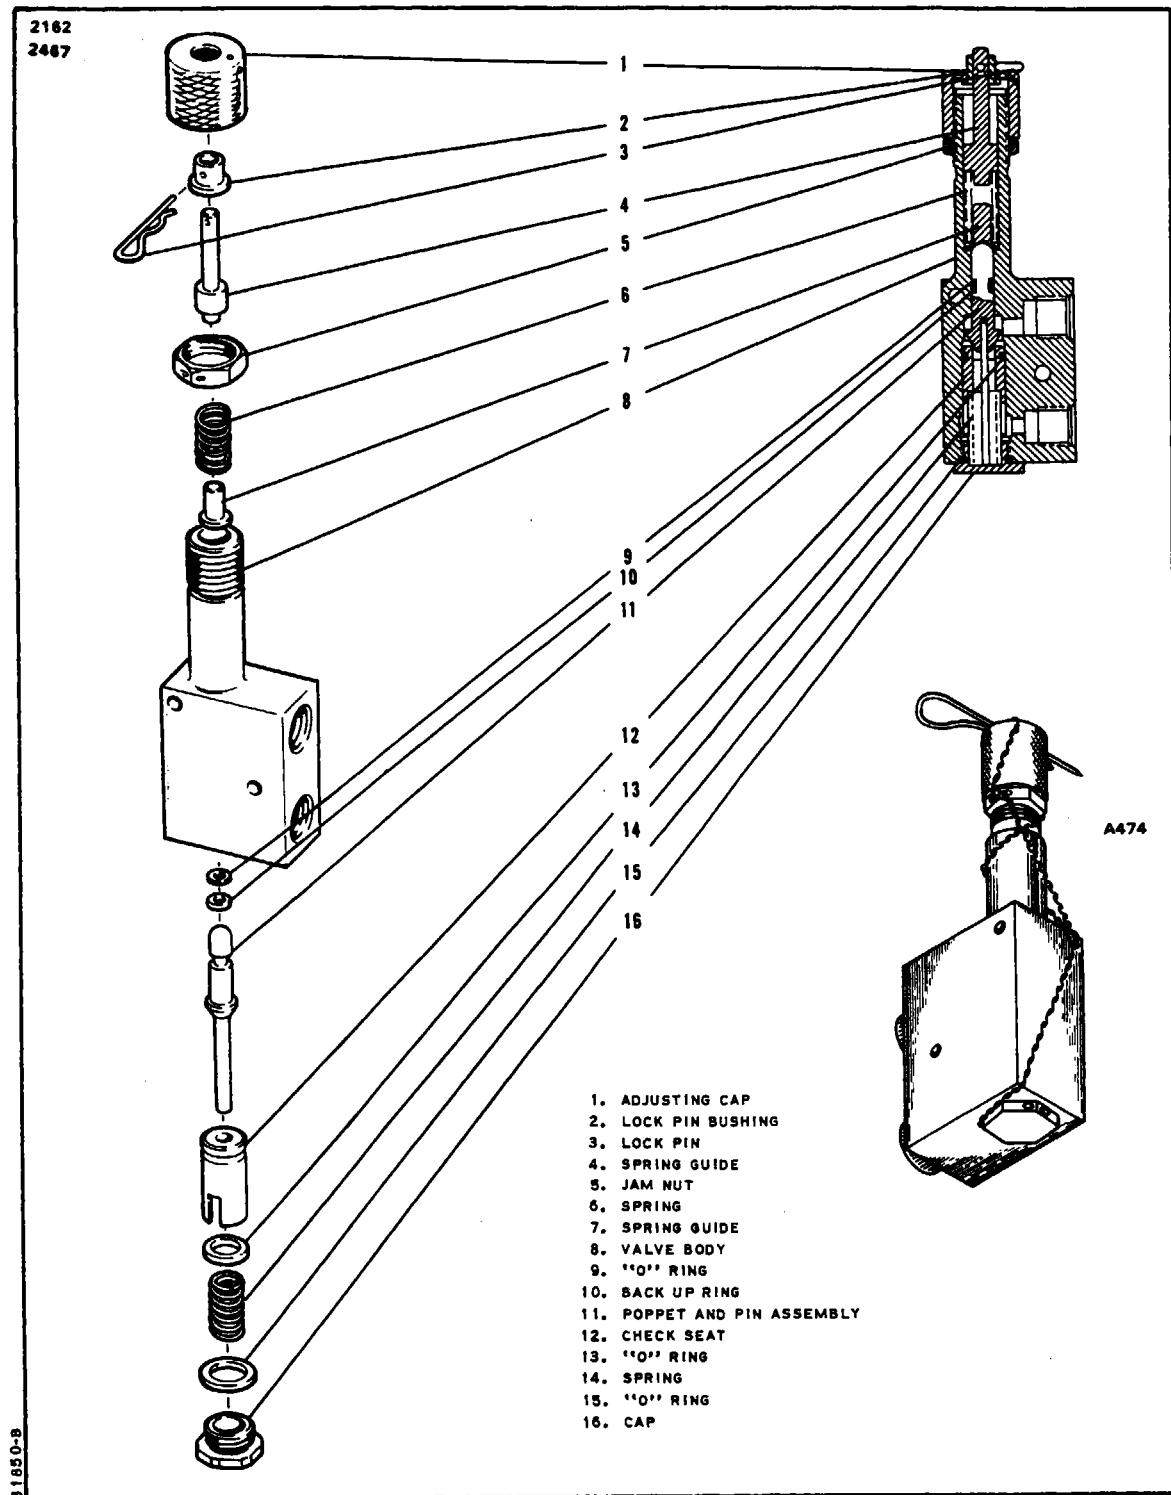

Figure 6-32. Priority Valve
6-114. DISASSEMBLY OF PRIORITY VALVE. (Refer to Figure 6-32.)
6-116. ASSEMBLY OF PRIORITY VALVE. (Refer to Figure 6-32.)
- c. Install the spring (14) into the valve body.
- d. Install a new "O" ring (15) to the cap (16) and secure the cap to the end of the valve body.
- e. In the opposite end of the valve, install the spring guide (7), spring (6), spring guide (4), lock pin bushing (2) and the knurled adjusting cap (1).
- f. Tighten the adjusting cap until the lock pin can be freely inserted through the lock pin bushing (2) and the end of the spring guide (4).
- g. Test and adjust the valve in accordance with instructions in Paragraph 6-117, and safety valve with MS20995-F20 wire as shown in Figure 6-32.
- i. Safety the valve in a figure 8 pattern with MS20995-F20. (Refer to Figure 6-32.)
- b. Insert lock pin (3, Figure 6-32) into one side of the lock pin bushing (2). This holds the bushing out.
- c. Push the guide shaft (4) into the valve, align the holes and finish inserting pin.